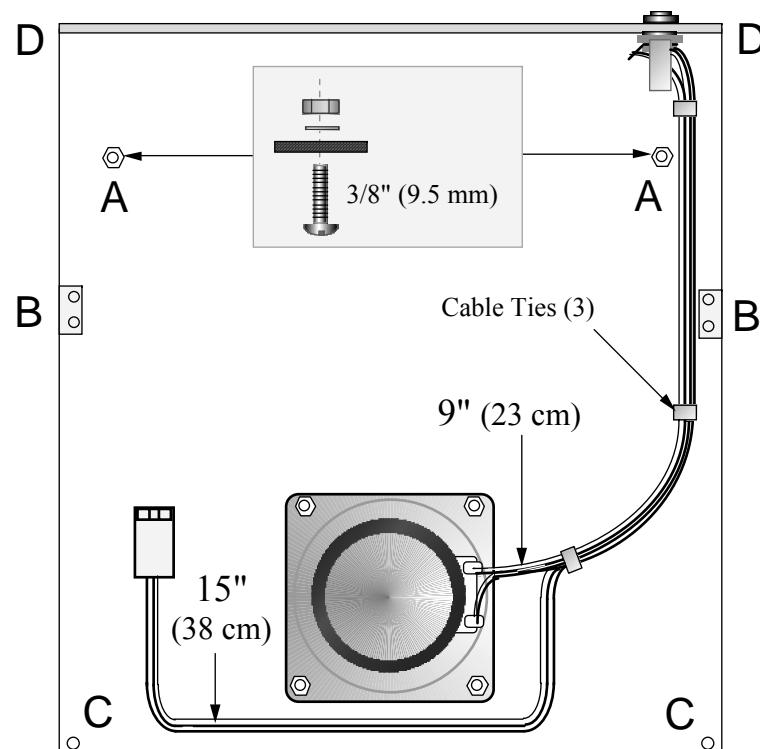
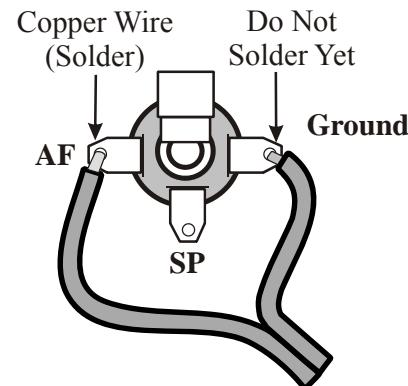

Figure 7-1
Figure 7-4
- Place the top cover upside down as shown in Figure 7-1, with its rear panel facing away from you. The illustration shows how the speaker, 2-conductor cable, external speaker jack and other hardware will be attached to the top cover.
- Place #4 fibre washers (black) at each of the top cover's four speaker mounting holes (Figure 7-1). Trim the corners of the grille cloth so it just fits between the fibre washers, not touching them.
- Locate the two holes marked **A** in Figure 7-1. Use two 4-40 x 3/8" (9.5 mm) screws to fill these holes, securing them with #4 lock washers and 4-40 nuts. (The holes are for the battery option.)
- Install 2-D fasteners at the two locations marked **B** in Figure 7-1. The 2-D fasteners should line up exactly with the edges. Use two chassis screws per 2-D fastener.
- Install the external speaker jack in the EXT SPKR hole. Orient the jack as shown in Figure 7-1 and Figure 7-4, with the "AF" tab nearest the inside of the top cover. (**Caution:** Mis-identification of the three tabs could result in a ground short.)
as shown. Insert the other wire into the pin 2 position.  Connect the other end of this cable to the external speaker jack as shown in Figure 7-4. The copper wire must be connected to the "AF" lug of the speaker jack. Solder only the copper wire.
- Use three cable ties at the points shown in Figure 7-1 to hold the speaker cables in place. (Save the fourth cable tie for use with the supplied RF probe.) The ties should be pulled tight. Trim any excess cable tie length.
- Remove the masking material from the two top-cover mounting holes marked **C** in Figure 7-1.
- Cut through and peel off about 1/2" x 1/2" (12 x 12 mm) of masking material from around the top-cover mounting holes marked **D** in Figure 7-1. These holes are in the far corners of the top cover's rear panel, corresponding to screws **1** and **2** in Figure 7-6.